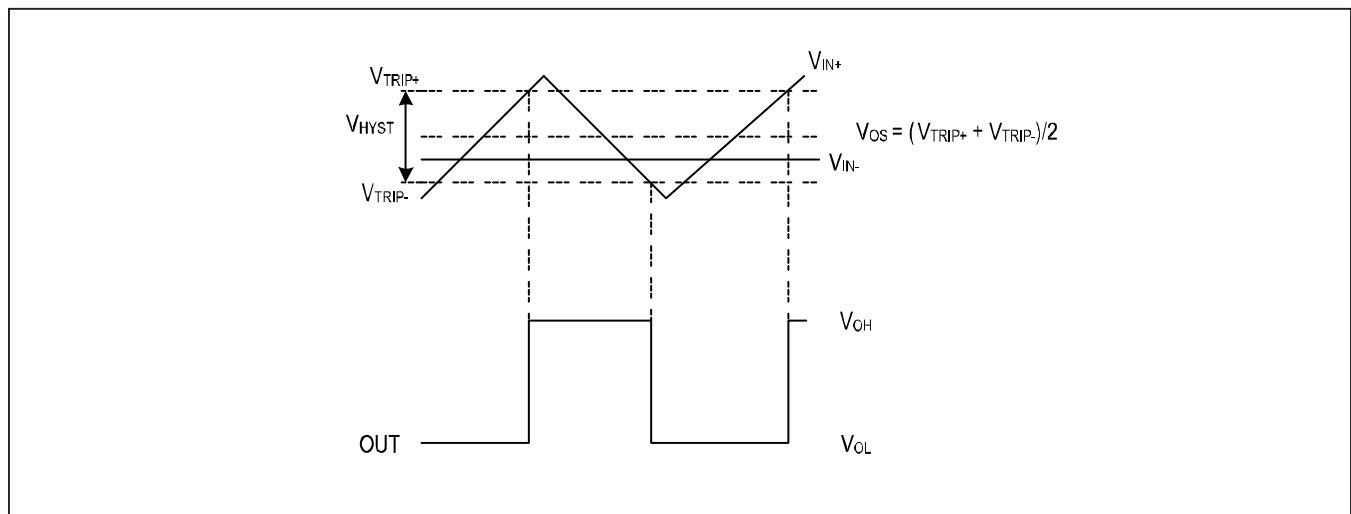

Figure 1. Hysteresis Band
**Note 3:** The hysteresis-related trip points are defined as the edges of the hysteresis band, measured with respect to the center of the band (i.e.,  $V_{OS}$ ) (Figure 1).
The hysteresis in a comparator creates two trip points: one for the upper threshold ( $V_{TRIP+}$ ) and one for the lower threshold ( $V_{TRIP-}$ ) for voltage transitions on the input signal (Figure 1). The difference between the trip points is the hysteresis band ( $V_{HYST}$ ). When the comparator's input voltages are equal, the hysteresis effectively causes one comparator input to move quickly past the other, thus taking the input out of the region where oscillation occurs. Figure 1 illustrates the case in which  $IN-$  has a fixed voltage applied, and  $IN+$  is varied. If the inputs were reversed, the figure would be the same, except with an inverted output.